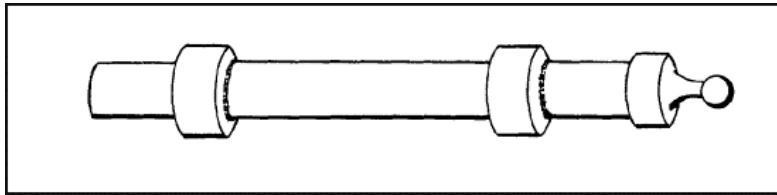

Figure A-1. The 60-mm mortar insert.
- a. The insert (Figure A-1) consists of a 60-mm mortar barrel, which is fitted with two aluminum rings that allow it to fit snugly into the 4.2-inch barrel. The aluminum rings also prevent the rifling in the barrel from being scored (Figure A-2).